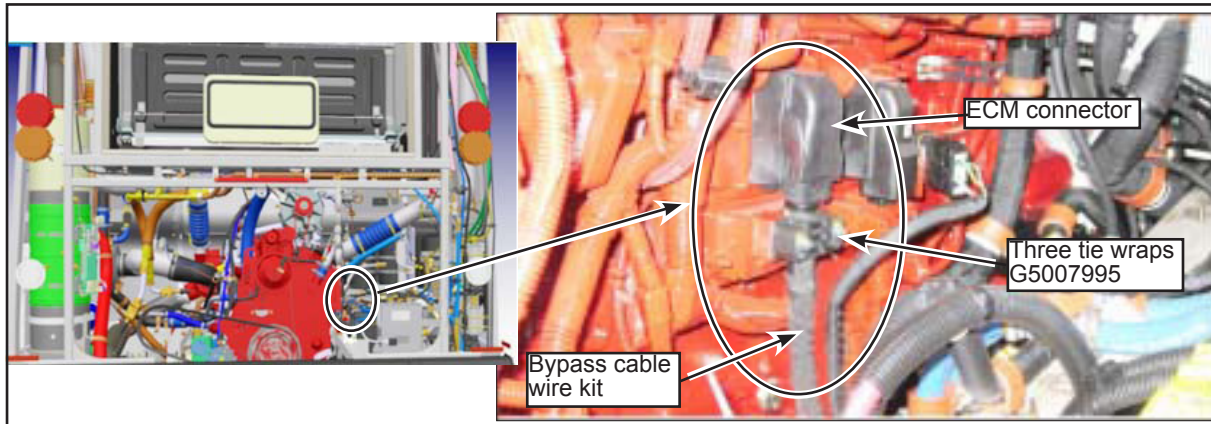

Figure 6 - Reconnect, Secure and Fasten the Bypass Cable Wire Kit
- 1.6. Reconnect the ECM connector, secure the strain relief, fasten the bypass cable wire kit with three tie wraps (G5007995), and route the wire kit from the ECM connector (+MT-X95W) as shown below (see Figure 6).